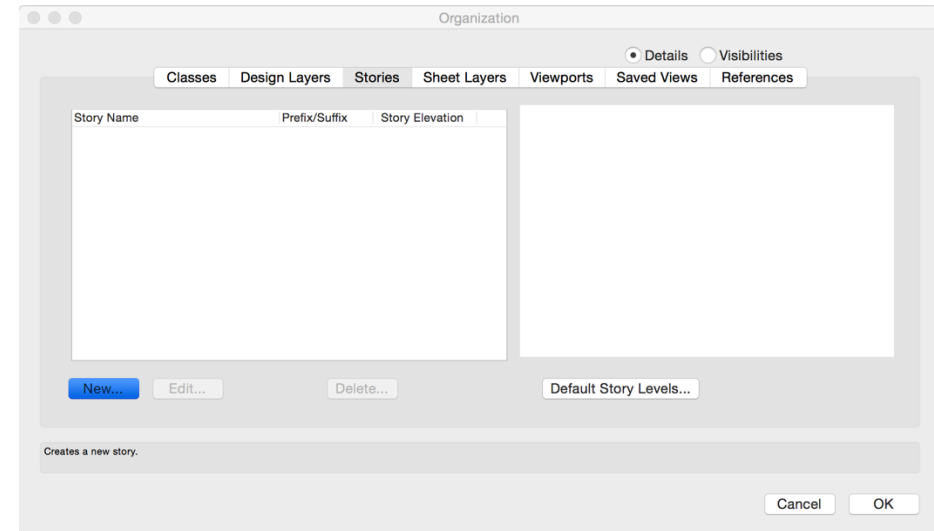

Fig. 6 Stories tab of Organization Palette
Step 1 In this step, we'll create several stories. Open the Organization palette (**Tools > Organization**) and choose the **Stories** tab. (Fig. 6)